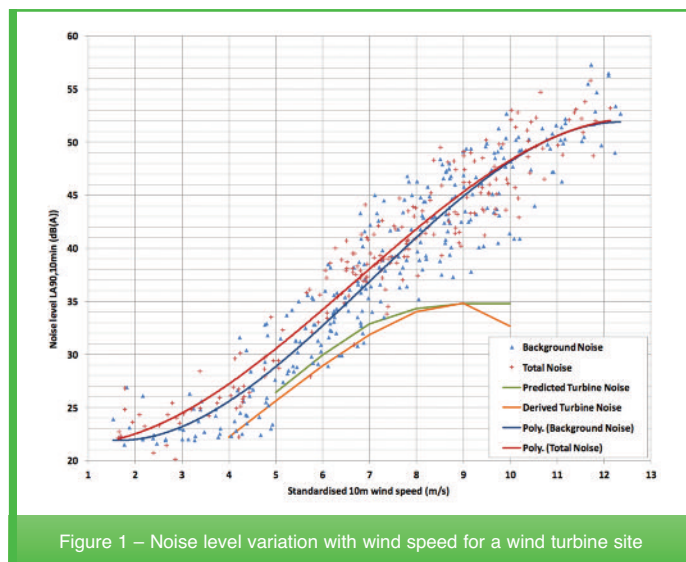

Figure 1 – Noise level variation with wind speed for a wind turbine site
Figure 1 illustrates a typical site where the 35dB(A) condition has been assessed at a suitable, representative location within the property. The site in question was found to be a low wind shear site. In red is a third order best fit polynomial of turbine plus background noise level data, while the blue best fit line represents background noise only.
In the situation illustrated by figure 1, the signal to noise ratio (between the trendlines) remains less than 2dB
Our experience is that derived turbine noise tends to follow prediction until background levels reach ~40dB(A)  $L_{A90,10min}$ , with results obtained at higher background noise levels tending to be far more variable. In the example given in figure 1, the developer “got lucky”, because the results at wind speeds where